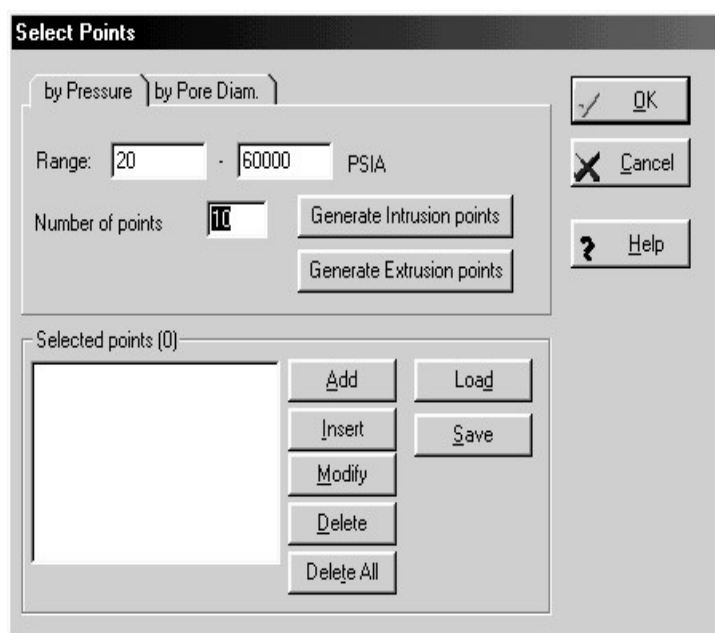

Figure 30. Select points for step-wise parameters dialog box
- **Step-Wise** allows you to select specific pressures (pore sizes) at which the data will be acquired. If you select this mode, you must specify the **Step-Wise Parameters** by selecting the **Dwell Time** and **Select Points** (Figure 30). (See Section 7 for details.)